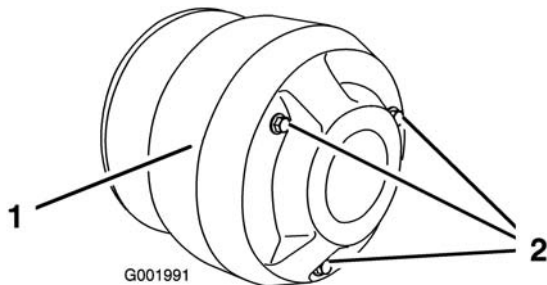

Figure 53
4. Remove the 3 bolts securing the cover to the clutch and remove the cover (Figure 53).